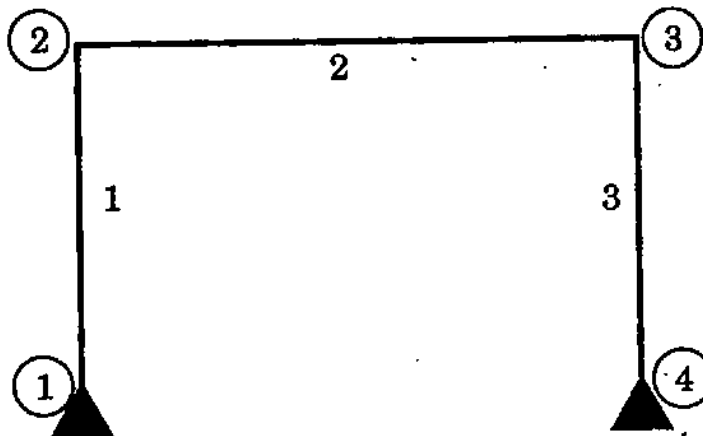

Figure 2
- (c) A plane frame is shown in Figure 2. Determine the size of the reduced stiffness matrix with axial deformations and without axial deformations after introducing the boundary conditions. Also, show the active degrees of freedom in both cases. Node number is shown in circles. 10